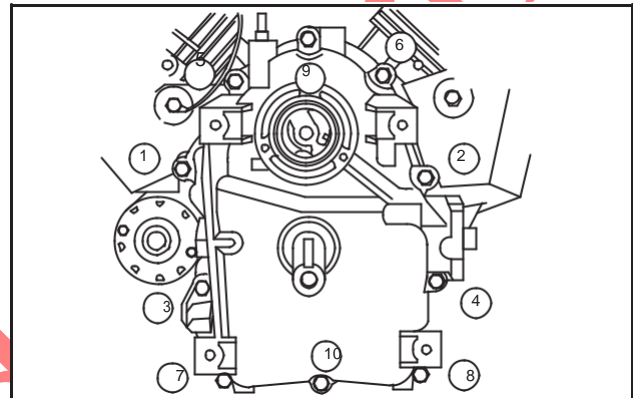

Fig. 15 – Install Sump
2. Install sump with new gasket, Fig. 15.